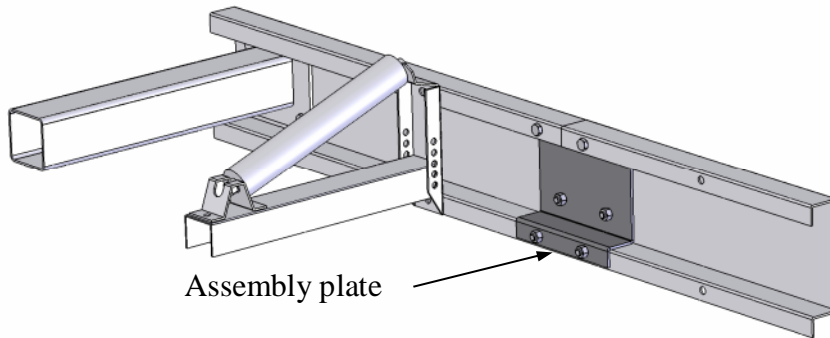

Fig.1
2. The motor section and extension sections are joined with the aid of assembly plates. Insert bolts without tightening, fig. 1.